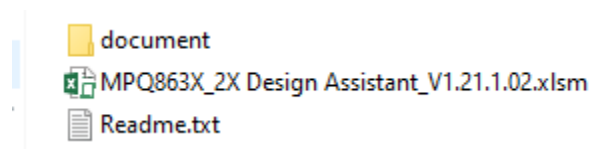

Figure 19: Design Spreadsheet for MPSmart
2. Extract the downloaded file, which contains three documents if the model includes design spreadsheet assistant (see Figure 19):